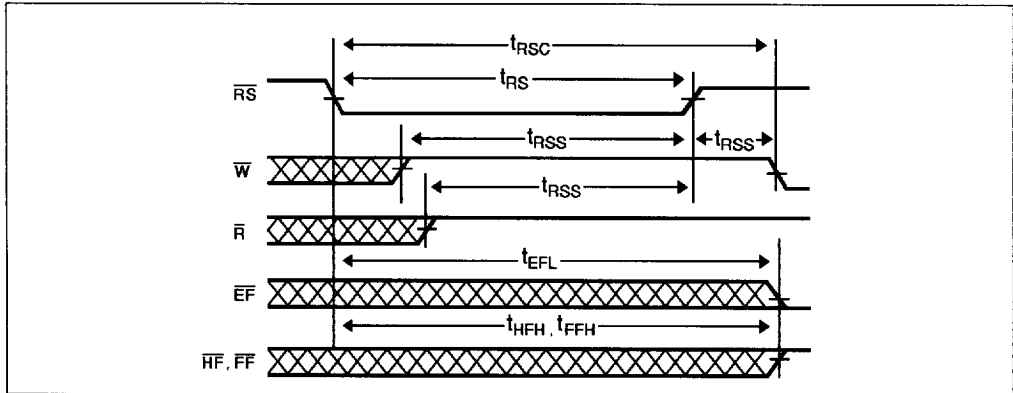

Figure 1 : Reset.
power-up before a write operation can be enabled. Both the Read Enable ($\bar{R}$) and Write Enable ($\bar{W}$) inputs must be in the high state during the period shown in figure 1 (i.e. t_{RSS} before the rising edge of $\overline{RS}$) and should not change until t_{RSC} after the rising edge of $\overline{RS}$. The Half-Full flag (HF) will be reset to high after Reset ($\overline{RS}$).